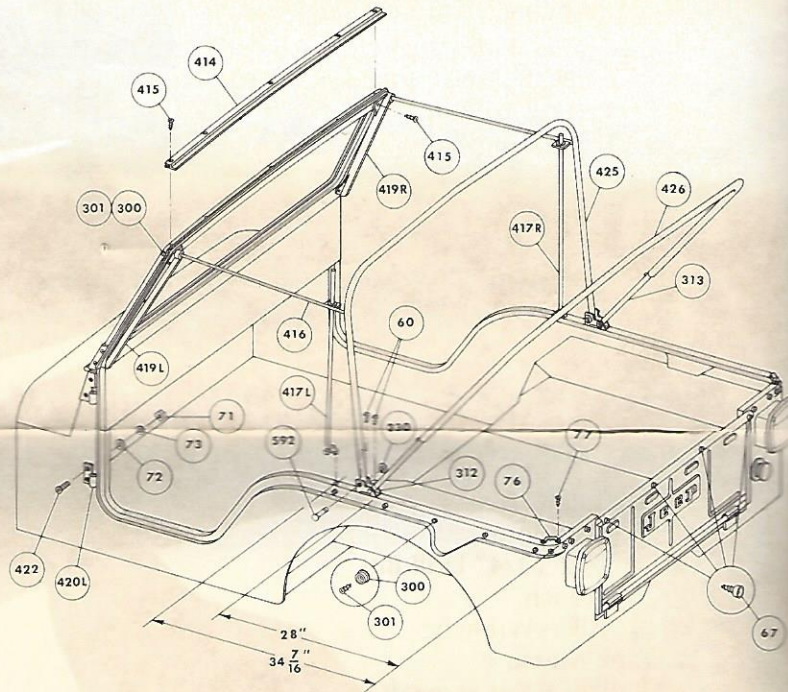

FIGURE 3
2. **FRONT—FORMER:** Center Front-Former (P/N 414) on top front surface of windshield. Position front edge of part flush with front center area of windshield. Mark hole locations. Center punch and drill five (5) 1/8" diameter holes. Install using five (5) #8 x 1/2" Phillips Head Self-Tapping-Screws (P/N 415). See Figures 3 & 4.
3. **DOOR—SEALS:** Position Door-Seal (P/N 419L) by matching contour of upper portion of part with windshield frame. Move outside surface of lower end of seal flush with door recess and outside edge of dash panel. Mark hole locations. Center punch and drill four (4) 1/8" diameter holes. Install seal using four (4) #8 x 1/2" Phillips Head Self-Tapping Screws (P/N 415). Repeat to install opposite Door-Seal (P/N 419R). See Figures 3 & 4.
- A. (4105 Top) Mark location of 1/4" diameter holes 34-7/16" forward from rear of body as shown in Figure 3. Center punch and drill two (2) 1/4" diameter holes.